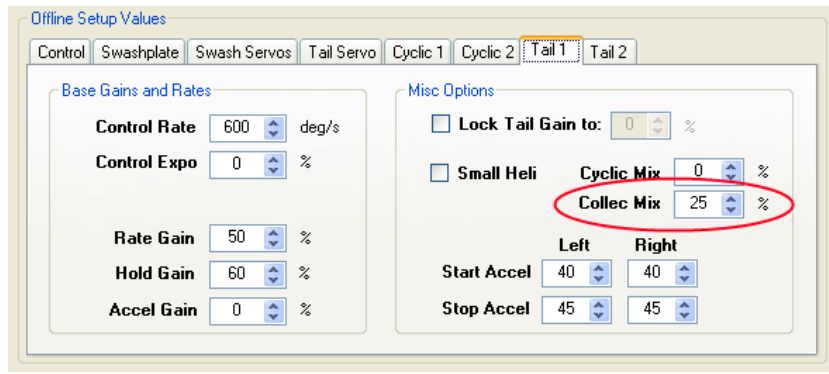

Figure 17.3 – Collective-Torque Compensation setting
- 6) Adjust the collective-torque compensation for the tail. (See Figure 17.3 below.) Start from a hover and then apply maximum positive collective. If the tail goes right, increase the collective to tail mixing for on the *Tail* tab by adjusting the *Collec Mix* field. If it goes left, decrease that value.